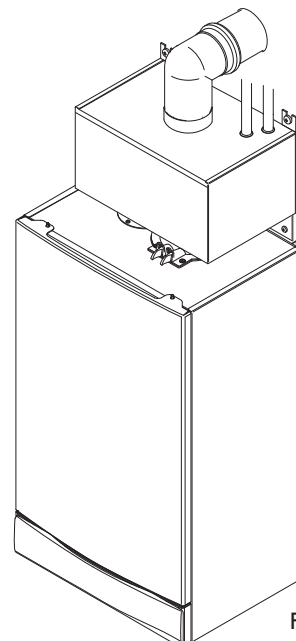

Fig. 9
9. The flue system can now be installed (Fig. 9) and commissioning completed. The flue adaptor on top of the 'GasSaver' is the same as that on the boiler.